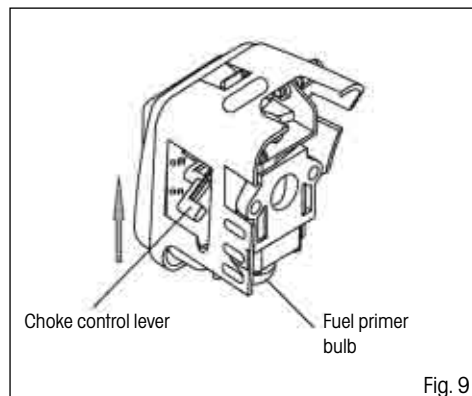

Fig. 9
2. Repeatedly push down the fuel primer bulb (5 to 10 presses), until the fuel gets to the carburettor. (see fig. 9)
3. Move the choke lever upwards to the "OFF" position (=air supply turned off, i.e. choke turned on). (see fig. 9)